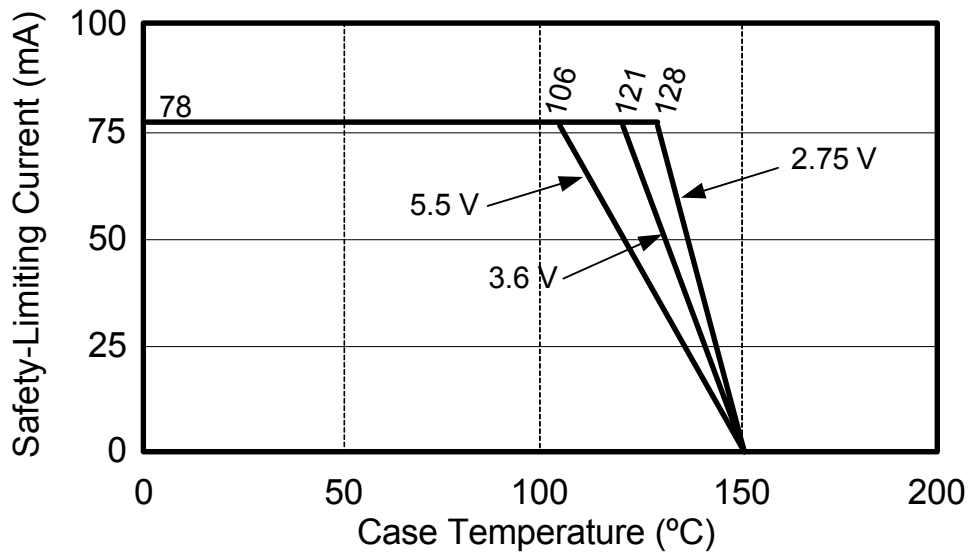

Figure 2. Thermal Derating Curve, Dependence of Safety Limiting Values with Case Temperature per DIN EN 60747-5-2
*Note: Maximum value allowed in the event of a failure; also see the thermal derating curve in Figure 2.